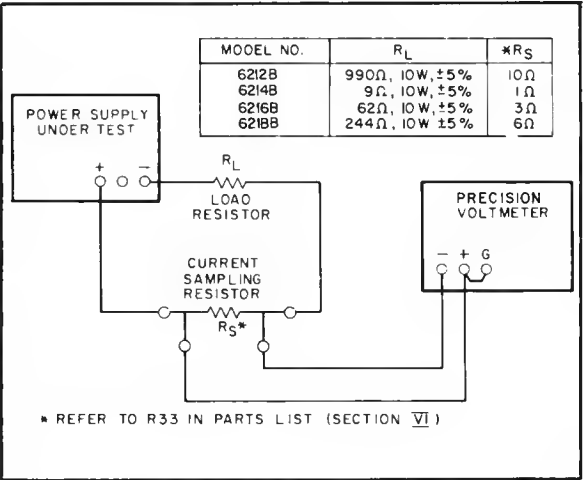

Figure 5-8. Constant Current, Test Setup
- Connect test setup shown in Figure 5-8.
- a. Connect test setup shown in Figure 5-8.
- a. Utilize test setup shown in Figure 5-8.